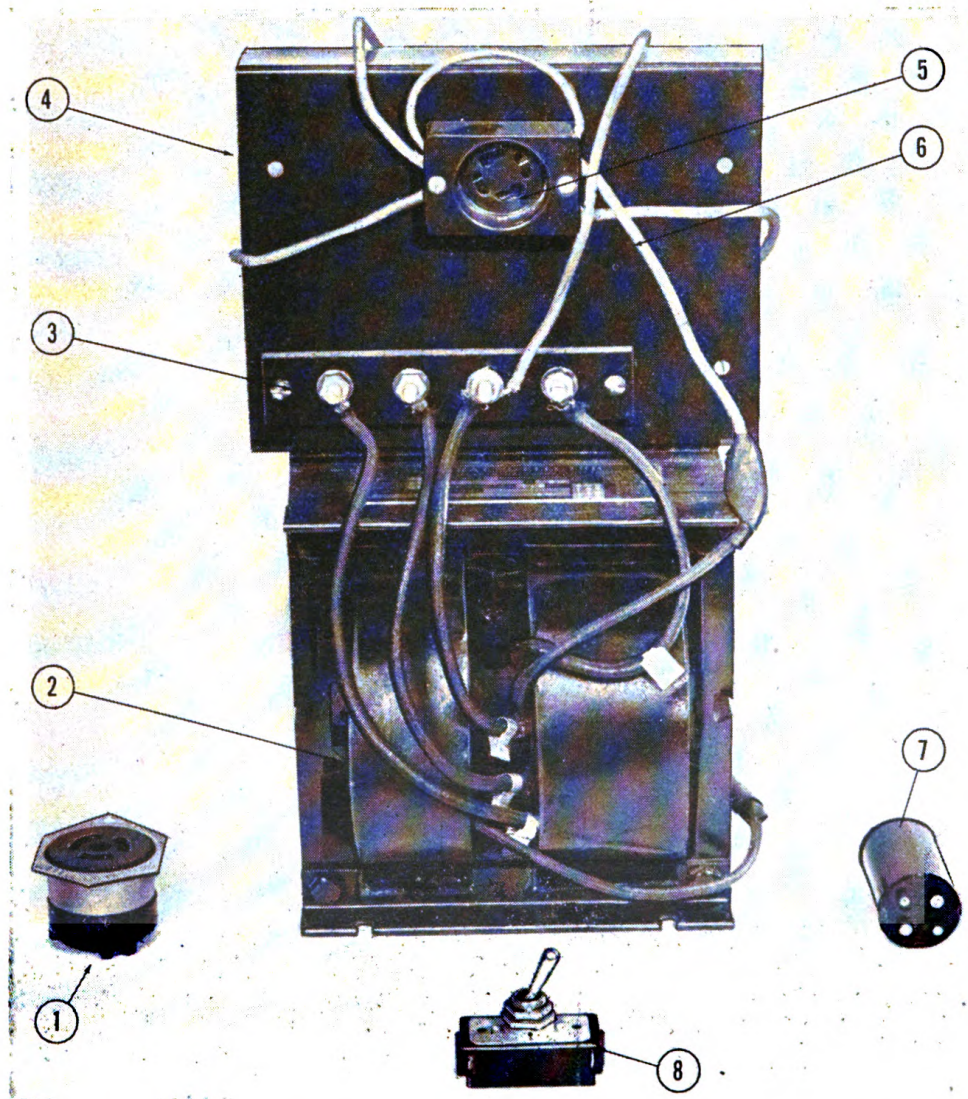

Figure 14. Parts for lamp, therapeutic, mercury arc, air-cooled, Burdick model.
plastic terminal board, 7R03634 (fig. 14), accessible. Connect the line lead (fig. 14 (6)) to the proper terminal tap as indicated in the table below:
(1) Line toggle switch on the Burdick model, 7R03638 (fig. 14), is marked "on" and "off".
d. **Burdick model only.** (1) Snap the line toggle switch to the "on" position.
(2) Test to determine if current is reaching the burner, by placing a 300-volt a-c voltmeter across the burner clips. A normal "no load" voltage reading will be approximately 250 to 260 volts. If there is no voltage at the burner clips, snap the line toggle switch to the "off" position.
(3) Make the thermal switch, 7R03716 (fig. 14), accessible by unfastening the screws holding the front panel cover plate, and removing the front panel cover plate, 7R03618 (fig. 2).
(4) Tighten the thermal switch in its socket, 7R03636 (fig. 14), by rotating it slightly clockwise.
(5) Snap the line toggle switch to the "on" position and test for current at the burner clips as described above. If there is no voltage at the burner clips, remove thermal switch and replace it with a new one.